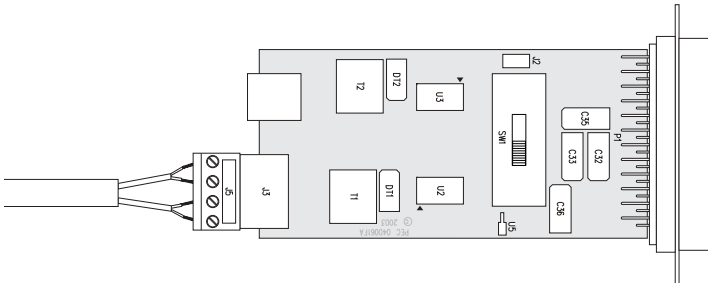

Figure 6. Wiring terminal block of Model 1012B
5. When you finish connecting the wires to the terminal block, the assembly should resemble the diagram Figure 6 below.
Figure 6 shows how to wire the two-pair cables properly for a